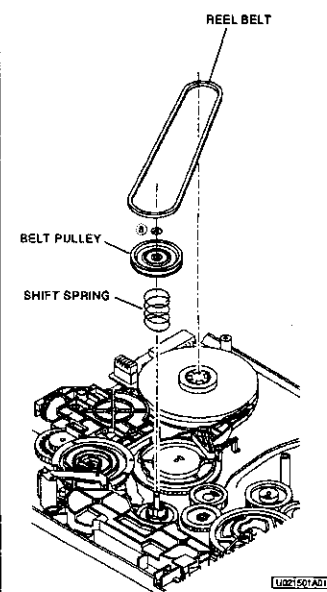

Fig. 2-15-1
- 1 Remove the REEL BELT shown in Fig. 2-15-1.
- 2 Remove the CUT WASHER (a) fastening the BELT PULLEY shown in Fig. 2-15-1 to remove the BELT PULLEY.
- 3 Remove the SHIFT SPRING shown in Fig. 2-15-1.
- 1 Install the SHIFT SPRING shown in Fig. 2-15-1.
- 2 Fasten the BELT PULLEY shown in Fig. 2-15-1.
- 3 Install the CUT WASHER shown in Fig. 2-15-1 to fasten the BELT PULLEY.
- 4 Install the REEL BELT shown in Fig. 2-15-1.